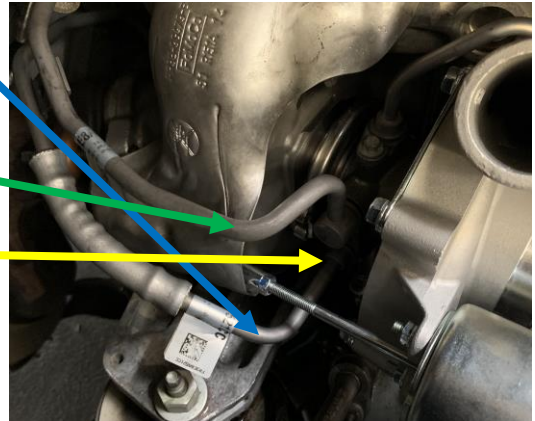

Fig. 24
1. Maneuver lower coolant line into position. Evenly push flange into turbo center housing until it is fully seated. See Fig. 24
2. Maneuver upper coolant line into position and evenly push flange into turbo center housing until it is fully seated. See Fig. 24